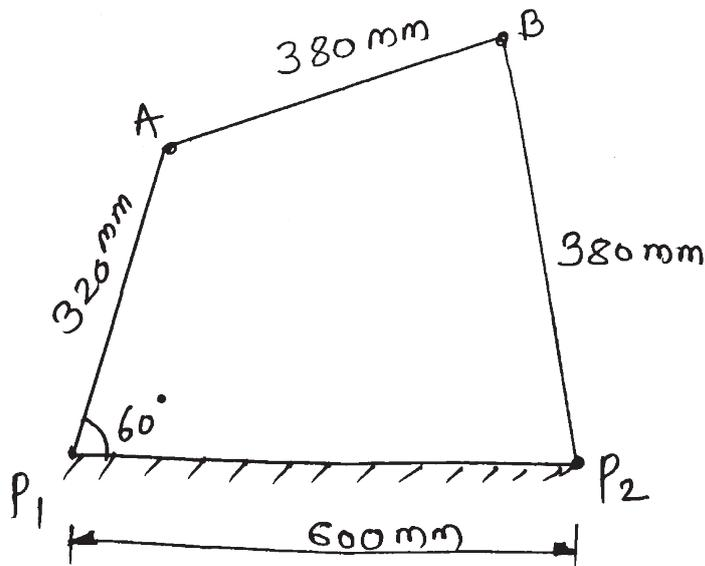

Fig. No. 3
- b) A four bar chain mechanism shown in Figure No. 3 is as follows :-